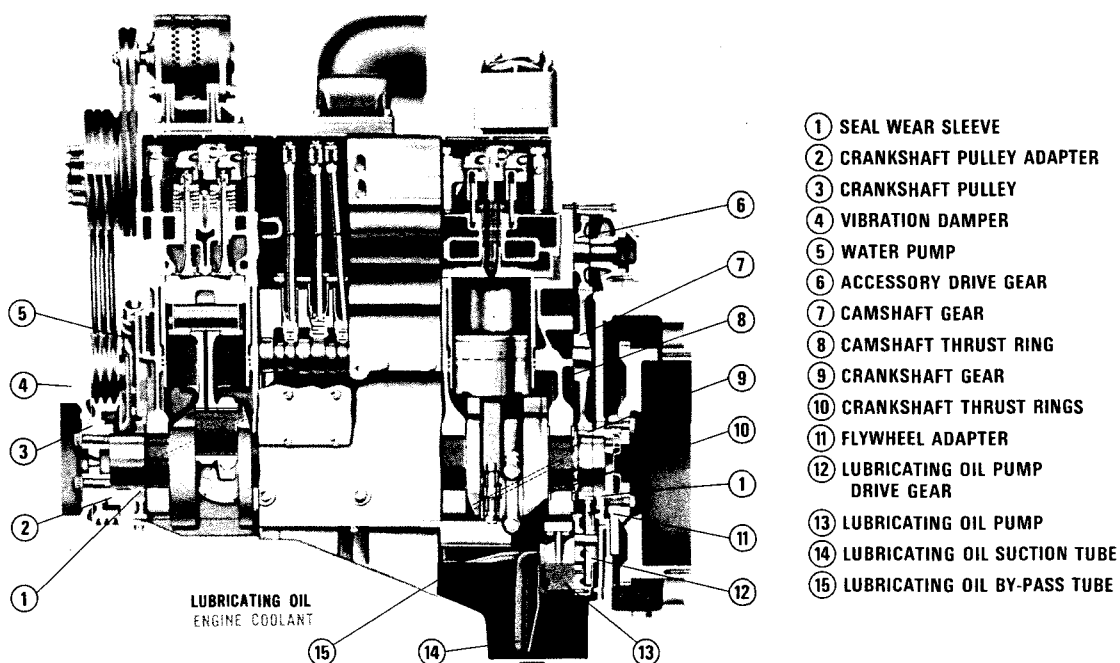

Fig. 5-20, (LWC-16). Lubricating oil and coolant flow — V-903 Series Engines
1. Oil flows from cooler and filter to right bank of oil drilling at front of engine to front center of block. Oil flows through crossover at front of block to left bank and right bank main oil drillings (drilled length of block). Fig. 5-20.